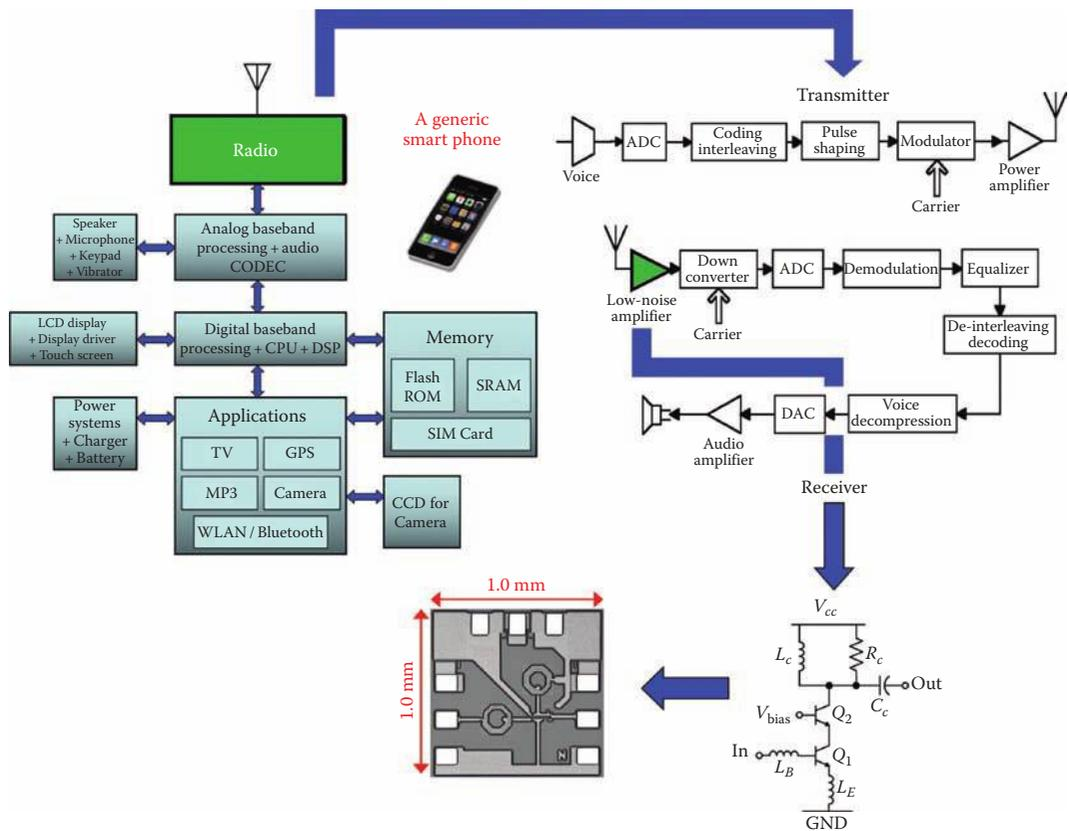

FIGURE 4.12
Okay, so where are the transistors in this beast? Each of the various subsystems just outlined will physically consist of one or more integrated circuits, each of which is built from transistors. There are actually billions of transistors in a smartphone. For instance, your phone might have 80 M of SRAM (>480,000,000 transistors). The microprocessor for the digital baseband unit might have 10,000,000 transistors, exclusive of its on-chip SRAM and DRAM. The DAC of the analog baseband processing unit might have 10,000 transistors. The two-way radio has even fewer transistors, perhaps only in the 100s. As shown in Figure 4.12, if we zoom in on the radio of the smartphone, one of the critical elements in the receiver is the low-noise amplifier (LNA). The LNA is responsible for amplifying (making larger) the incoming EM carrier wave from the antenna (which might be only microvolts (μ V's, one millionth of a volt) in magnitude, making the signal large enough to be manipulated by the radio circuitry. It must perform this signal amplification at high (RF) frequencies without adding excessive noise to the EM signal, or else the information it contains (voice, data, or both) will be lost. The circuit schematic of the LNA may look deceptively simple (refer to Figure 4.12), because in this case it requires only two transistors, two inductors (the two circular shapes in the die photo), one capacitor, and one resistor; but if only one of those transistors is removed (or is damaged), the entire smartphone is worthless.